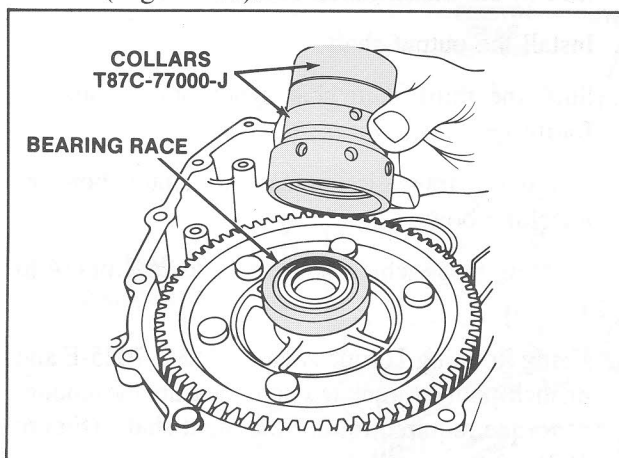

Figure 103 Shim Selector Collar Installation
6. Install the collars supplied with Shim Selection Tool T87C-77000-J on the differential bearing race. (Figure 103).